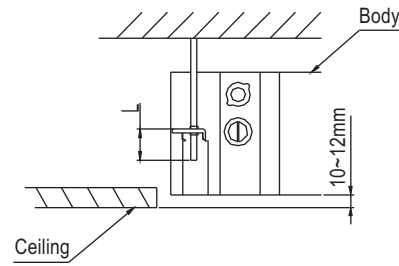

Fig.1-4
- Adjust the position to ensure the gaps between the body and the four sides of ceiling are even. The body's lower part should sink into the ceiling for 10~12 mm. (Refer to Fig.1-4)
- In general, L is half of the screw length of the installation hook. (Refer to Fig.1-4)